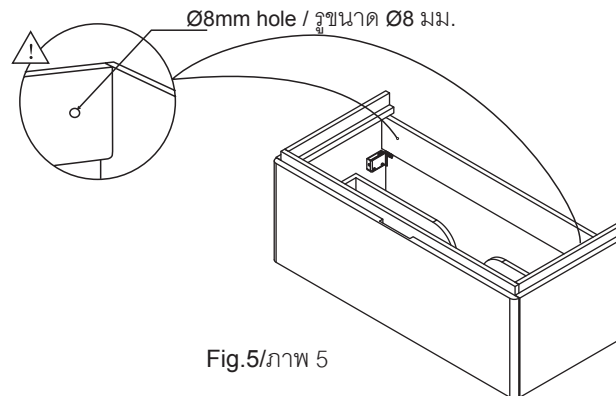

Fig.5/ภาพ 5
6. Mark the wall through two holes at the corresponding positions as illustrated Fig5.